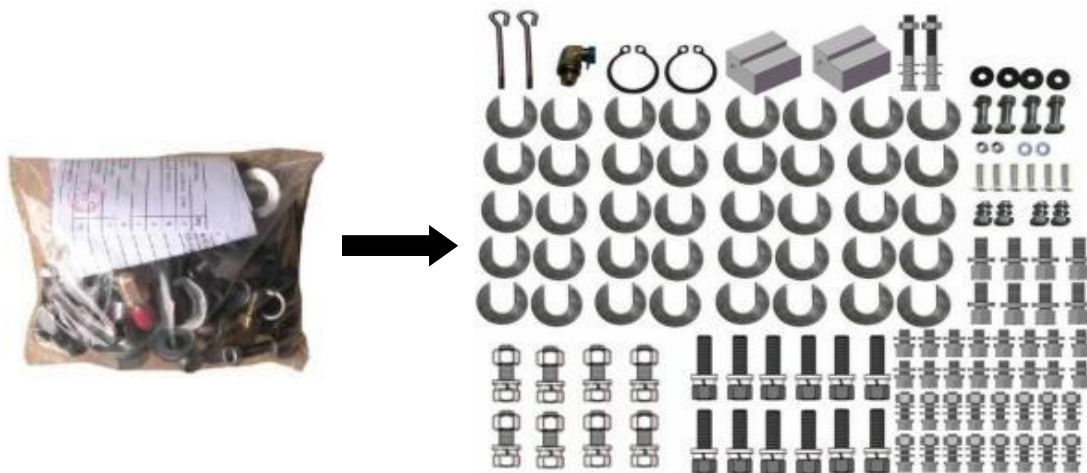

Fig.12
6. Check the parts of the parts bag according to the parts bag list. (See Fig. 12)